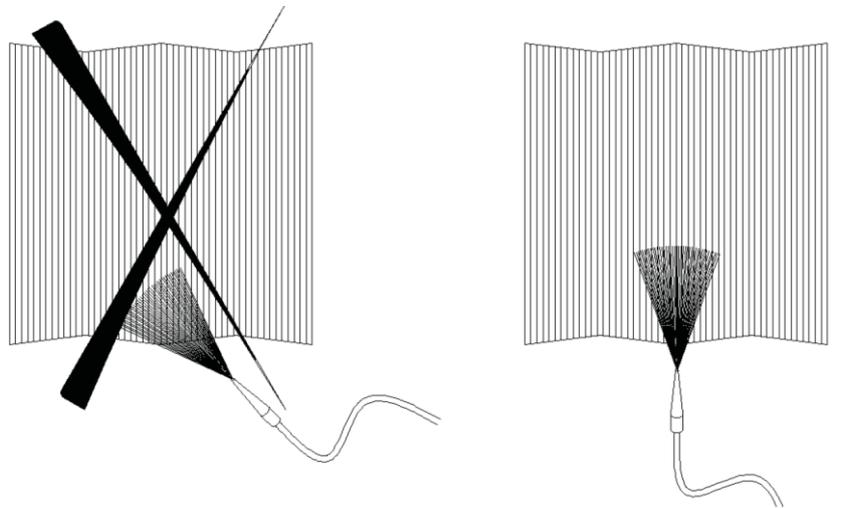

Figure 2 – Water flow direction during cleaning operation.
- Keep the jet perpendicular to the fins as shown in Figure 2.